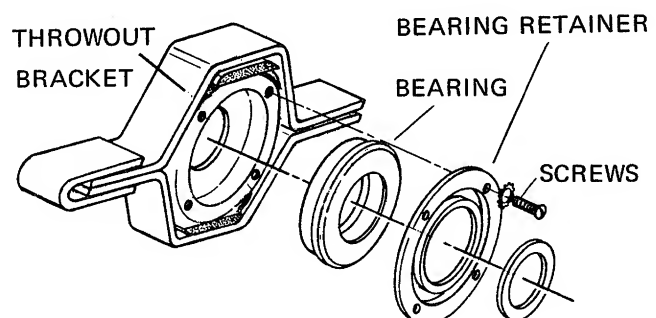

FIG. 19
14. **THROWOUT BEARING REPLACEMENT.** To replace the throwout bearing, remove the four round head screws holding the bearing retainer and lift out the throwout bearing. Note carefully the direction the bearing faces for reassembly. Reassemble with the new bearing. (see Fig. 19)